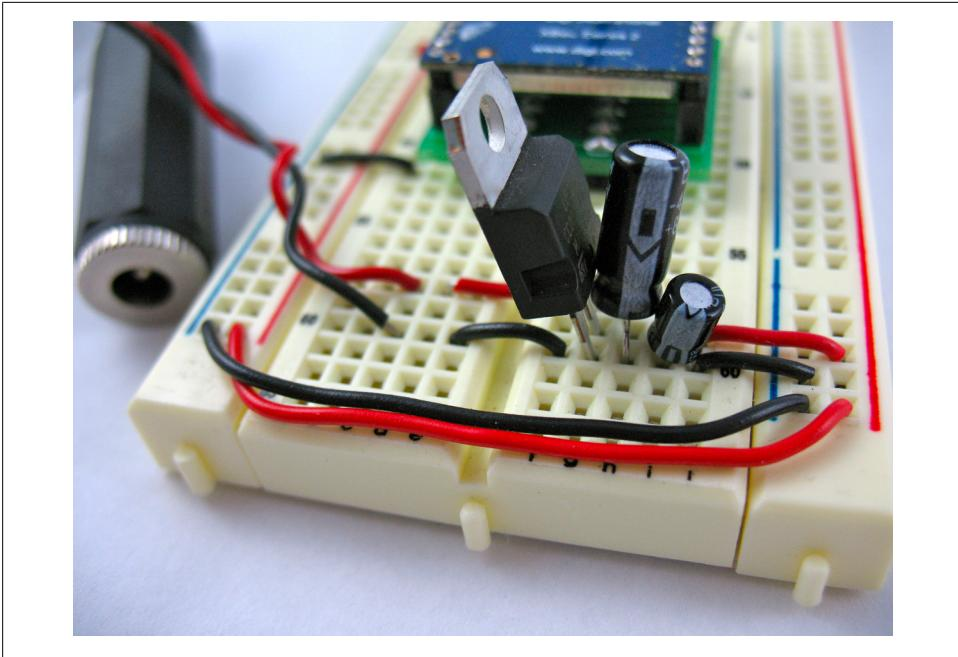

Figure 5-4. Voltage regulator circuit on breadboard
1. Wire up a breadboard with a 3.3-volt voltage regulator (LD1117V33) as shown in Figure 5-4. The regulator has three legs—typically, ground, output, and input—when viewed from the front (where the writing is). Sometimes these legs are in a different order, so find and check the data sheet if you're not sure! Input is where a high voltage, for example 5 or 9 volts, is applied to the regulator. Output is where you will get the regulated 3.3 volts. Ground is the common ground for your entire circuit, including input, output, and all the other components. Bring ground out to both blue ground rails that run along the sides of your breadboard. Bring 3.3-volt output power to both of the red power rails.